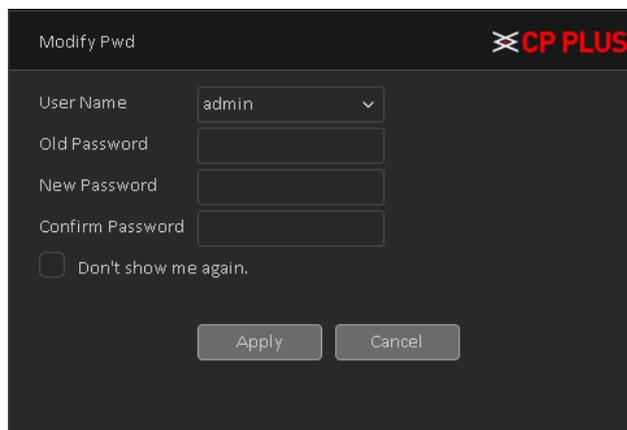

Figure 4.70
- **[Modify Password]** Modify user login password. See Figure 4.70